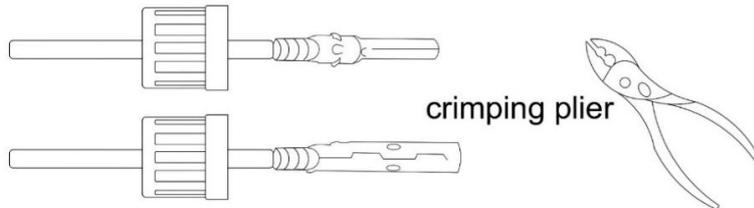

Figure 2.11 Crimping clamp crimping metal terminal
2. Crimp the metal terminal with crimping pliers, as shown in figure 2.11.